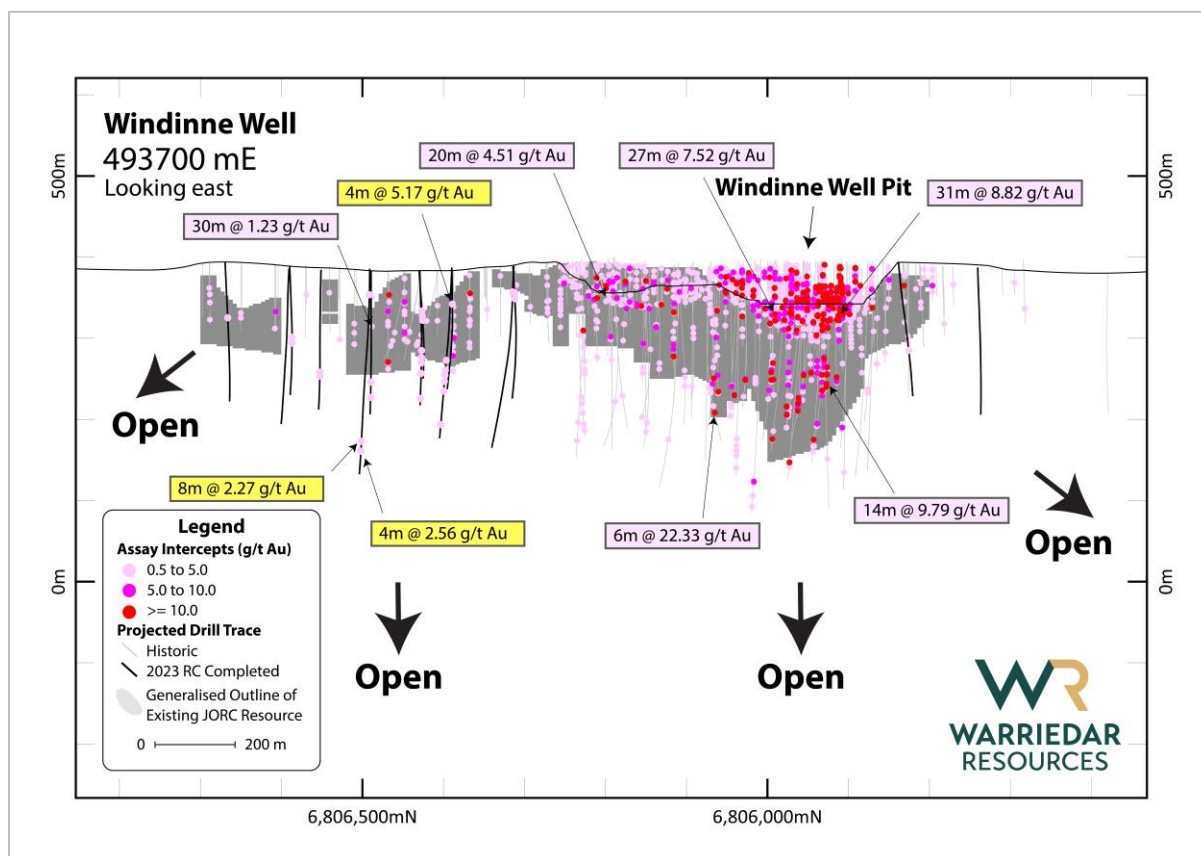

Figure 2: Long Sections through the Rothschild (top), Ricciardo (middle) and Windinne Well Deposits (bottom).
- Exploration drilling to add mineable and extensional high-grade ounces to existing deposits that demonstrate considerable potential to be expanded, plus delineating high-grade shoots within these deposits. For example, RC and diamond drilling focussed on the Rothschild ML and Windinne Well corridor, see Figures 2 and 3.
- Metallurgical drilling and test work along the Ricciardo corridor deposits (Silverstone to Bugeye, an 11km long zone). Positive results from this planned work would deliver the impetus to pursue drilling of multiple high-grade (+5 g/t Au) shoots. See Figures 2 and 3.
Windinne Well: A gold deposit associated with a north-south trending secondary splay, located to the west of the main shear. H1 CY2023 drilling extended the depth of the high-grade shoot to the north of the pit by 150m to a depth of 240m (see ASX release dated 9 March 2023). There are also a number of high-grade shoots within the main deposit located below the pit. See long section in Figure 2. Follow up drilling is planned for H2 CY2023.
Rothschild: A gold deposit on the eastern side of the Fields Find Project, where the first order controlling structures trend north-northeast (towards Mt Magnet). H1 CY2023 drilling extended the main lode at depth by 150m (along its entire strike) and confirmed the presence of additional parallel lodes (see ASX releases dated 12 July 2023, 29 May 2023 and 28 April 2023). A follow-up drill program on the Rothschild ML, targeting gold at Stone Hut, immediately to the southwest of the main lode, was brought forward and is now complete (see ASX release dated 18 July 2023). See long section in Figure 2. Results from the Stone Hut drill program are currently pending.
Ricciardo: A cluster of gold deposits located at the northern end of the main shear. H1 CY2023 drilling demonstrated that the deposits are larger and remain open at depth and to the south. Ricciardo boasts an existing JORC Mineral Resource of approximately 476 koz Au, with high grade shoots present within the main deposits at Silverstone North and Silverstone (see ASX release dated 27 June 2023). See long section in Figure 2. A follow up drill program based around metallurgical test work is being planned for H2 CY2023.